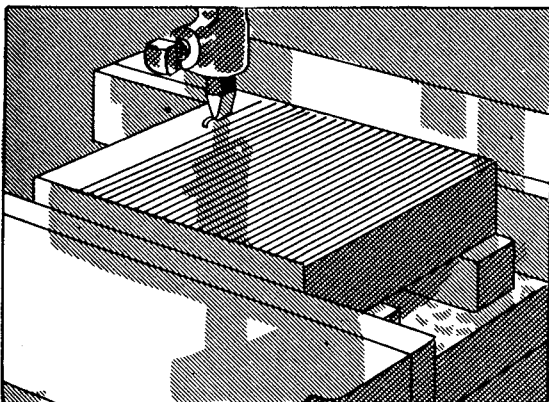

FIG. 477
4. Allow the tool to cut the first series of grooves over the entire surface of the work (Fig. 477).